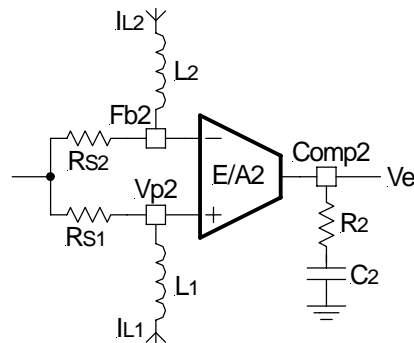

Figure 17 - The PI compensation network for slave channel.
The transfer function for the compensation network is given by equation (19), when using a series RC circuit as shown in Figure 17: